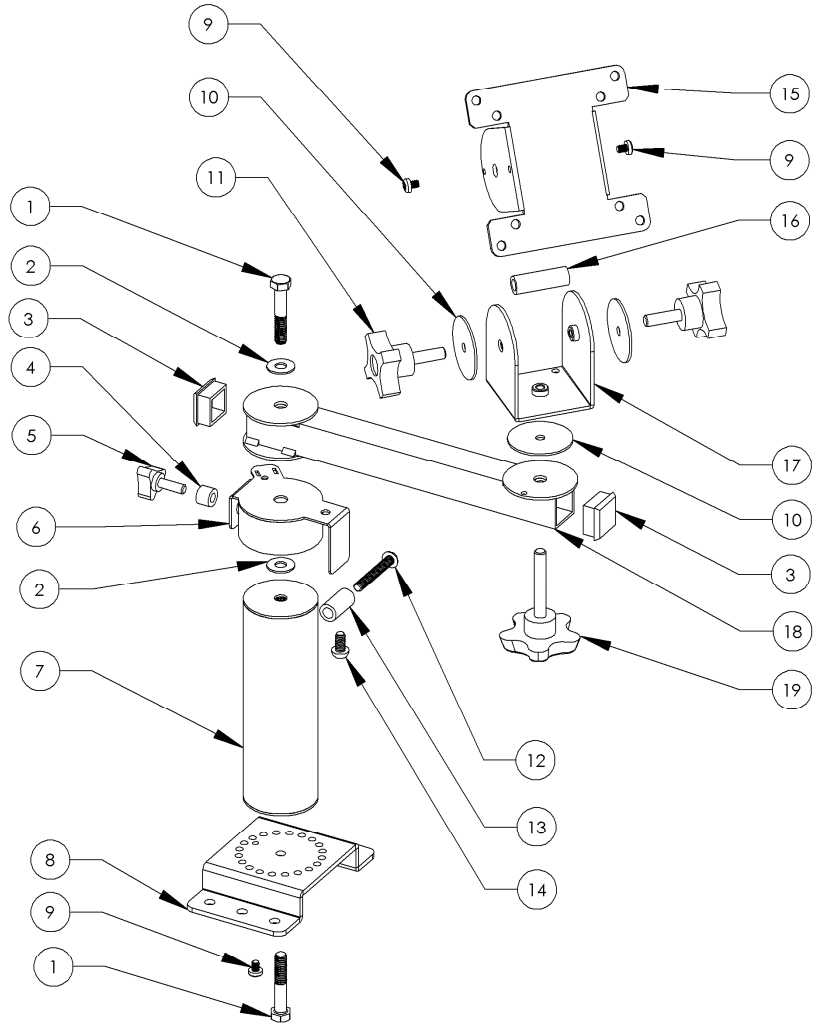

Figure 6 - UVHM-FM-R6-VESA
1. Lay the anti-slip washer on the top of the end of the arm (See Figure 6).